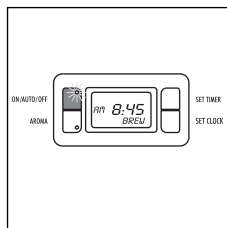

fig. 8
- Press the "ON/AUTO/OFF" switch (Fig. 8). The light on the button comes on to indicate that the drip coffee maker is operating and "BREW" appears on the display.